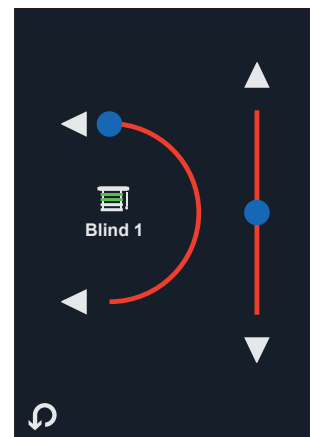

Fig. 7c 'Level + Tilt'
- Translatory + rotary movement 'Level + Tilt' (Fig.7c)